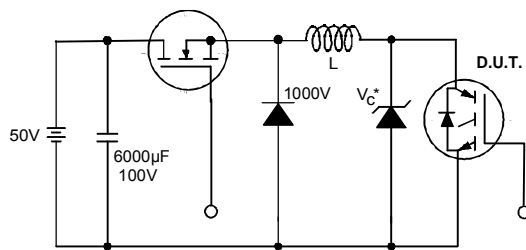

Figure 19. Clamped Inductive Load Test Circuit
- ② $V_{CC}=80\%(V_{CES})$, $V_{GE}=20V$, $L=10\mu H$, $R_G = 10\Omega$ (Figure 19)
- ③ Pulse width $\leq 80\mu s$; duty factor $\leq 0.1\%$.
- ④ Pulse width $5.0\mu s$, single shot.